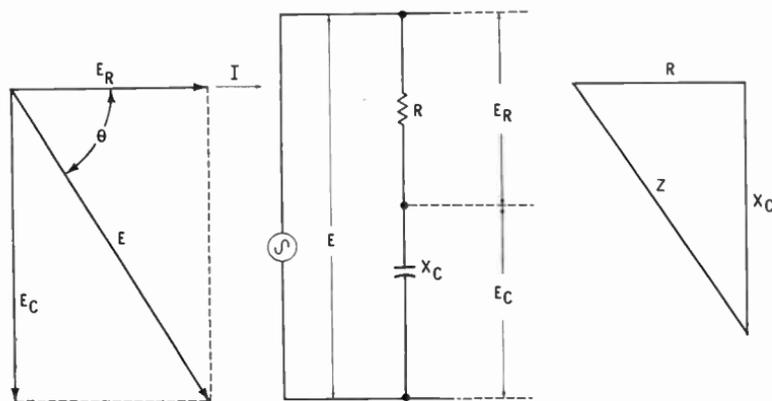

Fig. 4. Combination of resistance ( $R$ ) and capacitive reactance ( $X_C$ ).
If a capacitance is connected in series with a resistance, as shown in Fig. 4, the impedance may be written  $Z = \sqrt{R^2 + X_c^2}$ , and since:
**Example:** An alternating-current circuit, connected as shown in Fig. 4, contains a 10-ohm resistance in series with a capacitance of 40 microfarads. The voltage and frequency of the source are 120 and 60 respectively.